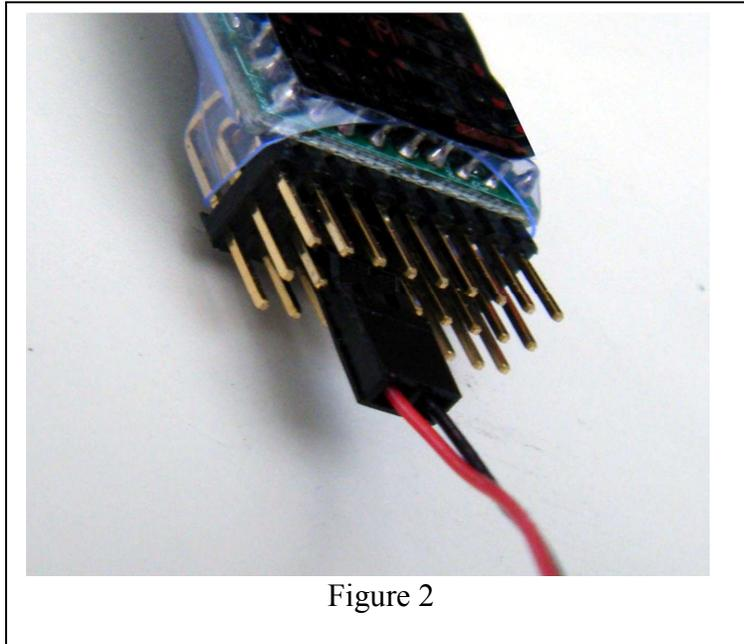

Figure 2
e) connect the newly created 2 wire plug to the center pins of the “temp 2” and “temp 3” eLogger V3 inputs, as shown in Figure 2. (note: this is not yet supported for Recorder users, but will be soon). Note that the red wire goes to the center pin of “temp 2”, and the black wire to the center pin of “temp 3.”